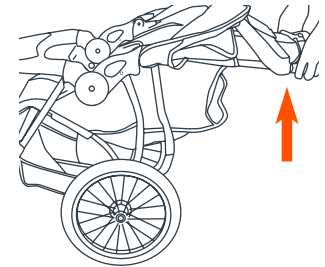

Fig. 21b
- Lift up on the stroller handle with both hands until the stroller frame is erected and locked in the open position (Fig. 21b). The stroller has spring-loaded latches on both sides of the frame.